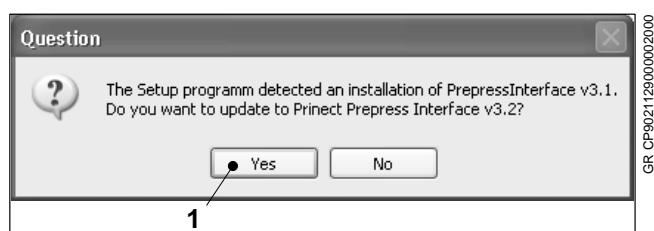

Fig. 17 Safety query
The installation routine finds your existing version (in Fig. 17, for example, it found PrepressInterface V3.1).
6. If you wish to perform the update, click on *Yes* (Fig. 17/1).